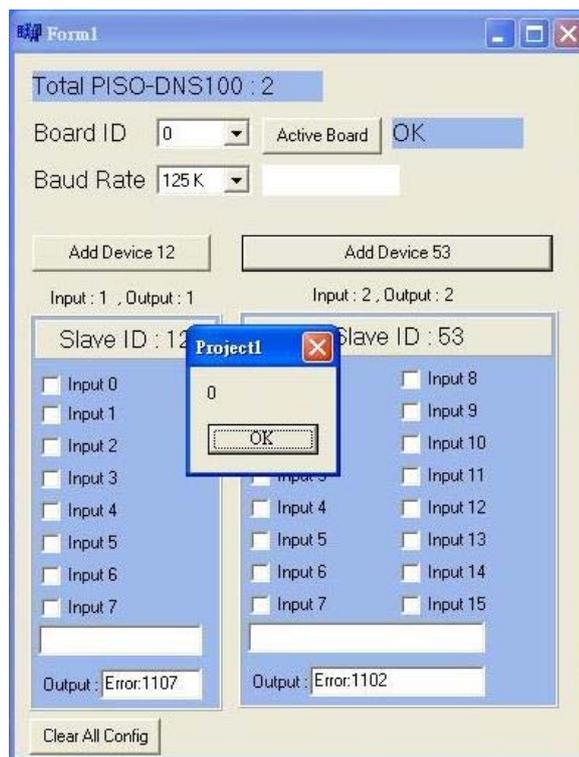

Figure 6.3.3 “Add Device 12” OK
For the convenient, we assumed that we have two virtual slave devices in the network. It is shown as Figure 6.3.3. One ID is 12 with 1 byte length of input and output. The other ID is 53 with 2 bytes length of input and output. When pushing the “Add Device 12” and “Add Device 53” buttons, it would add these two virtual slave devices into the PISO-DNS100(U). After adding these virtual slave devices, the users should reset the firmware in PISO-DNS100(U) by clicking the “ActiveBoard” button. Wait for 1 or 2 seconds then go to the next step.